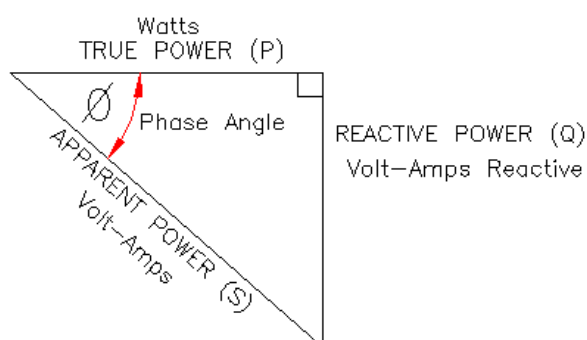

Figure 1 – A power triangle
5. The relationship between the various types of power can be shown on special phasor diagram known as a ‘power triangle’, in which the true power is shown as a horizontal phasor pointing from left to right. A power triangle (see Figure 1) is similar in shape to an impedance triangle.